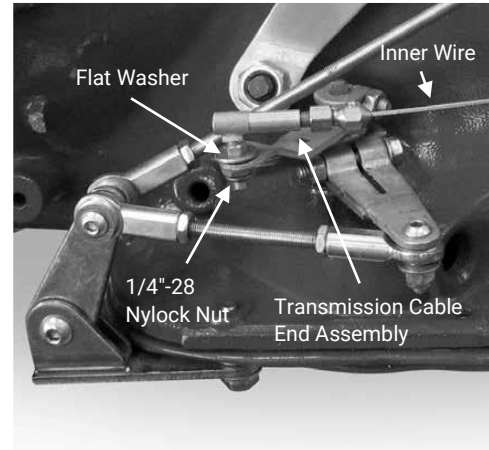

Figure 4
3. Install the transmission cable end assembly onto the original factory kickdown lever (not included) on the transmission, with the flat washer on top and the 1/4"-28 nylock jam nut underneath. Fig. 4